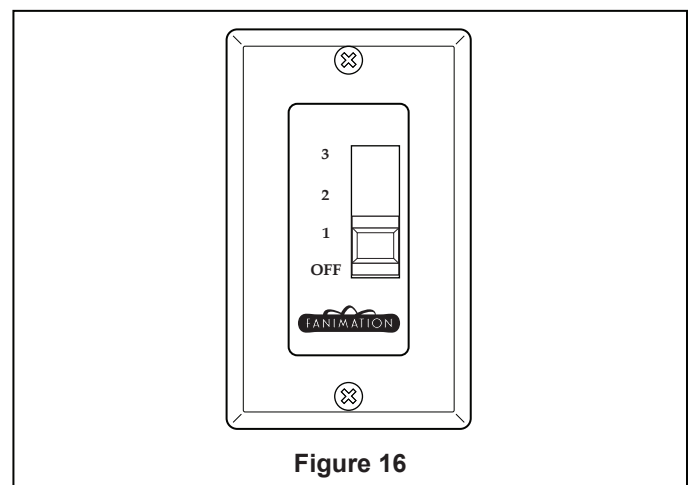

Figure 16
1. Operating & Using Wall Control (Figure 16):